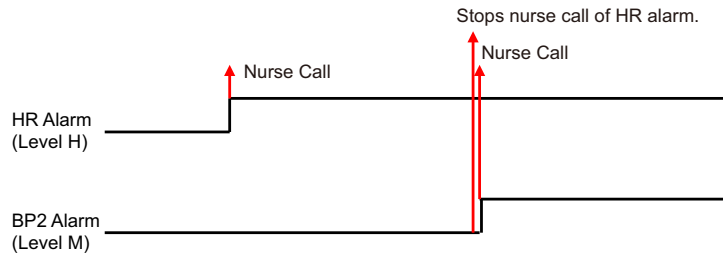

Figure 7: High Priority Factor for Notification
- ♦ When an alarm occurs during the nurse call notification of other alarm factor, the previous nurse call notification will be canceled to notify new alarm (Figure 7).